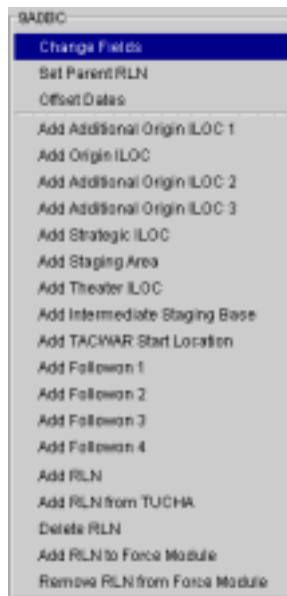

Figure 5.84 RLN Commands
4. Right-click the name of an RLN (e.g., 9A0BC). A menu of RLN commands opens (Figure 5.84) with the Change Fields command highlighted.